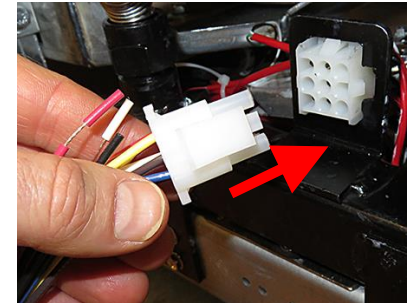

Figure 27
33. Attach the 1085398 harness to the waste oil manifold connection (see Figure 27).